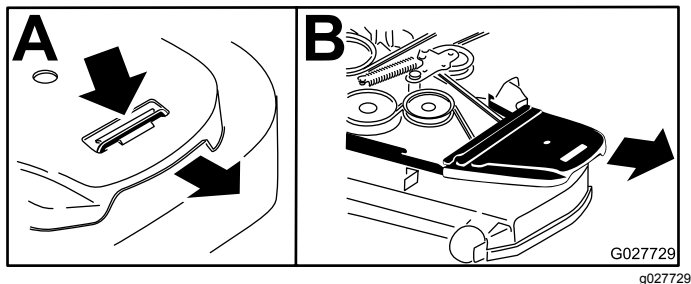

Figure 72
4. Remove the belt covers (Figure 72).